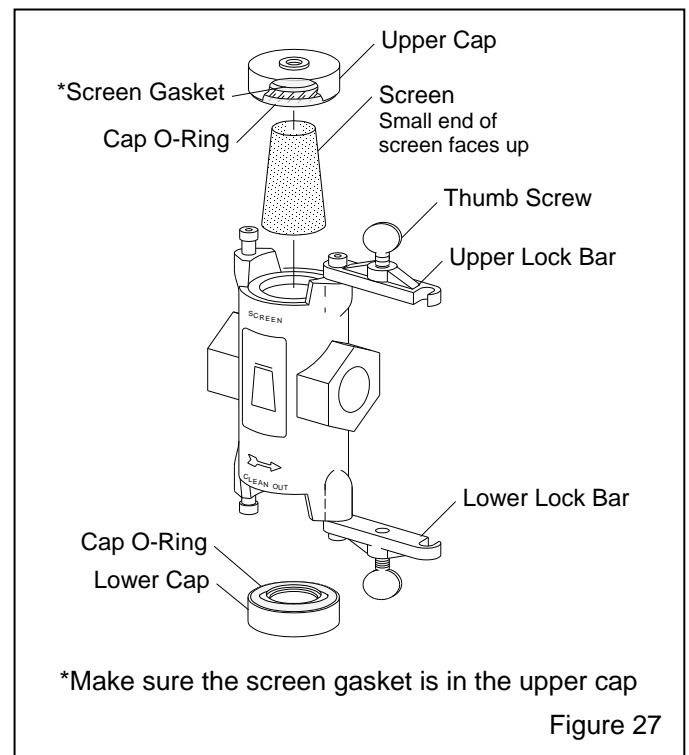

Figure 27
**6.7 Abrasive Trap, Refer to Figure 27**
**6.7.6** Install the screen in the top section. The smaller diameter end of the screen must face up as shown in Figure 27.